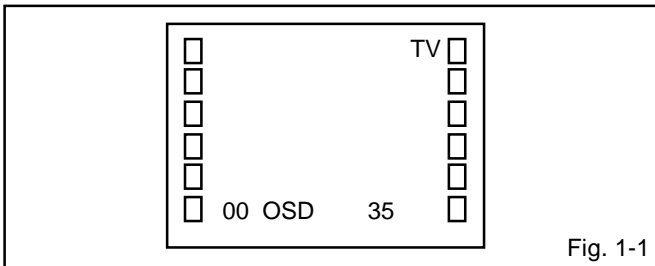

Fig. 1-1
1. In the condition of NO indication on the screen. Press the VOL. DOWN button on the set and the Channel button (9) on the remote control for more than 1 second to appear the adjustment mode on the screen as shown in Fig. 1-1.
3. Activate the adjustment mode display of Fig. 1-1 and press the channel button (01) on the remote control to select "CUT OFF".
4. Activate the adjustment mode display of Fig. 1-1 and press the channel button (10) on the remote control to select "R DRIVE".
3. Activate the adjustment mode display of Fig. 1-1 and press the channel button (03) on the remote control to select "H. PHAS".